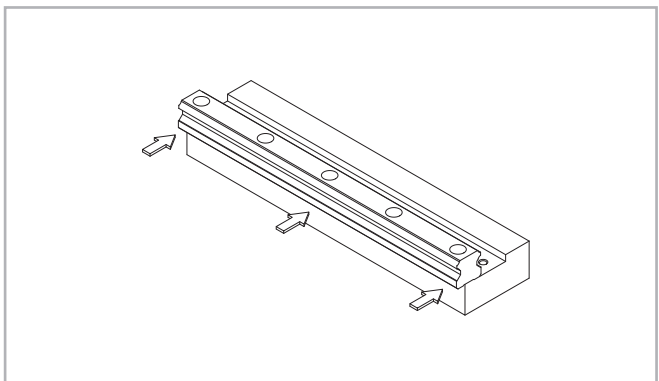
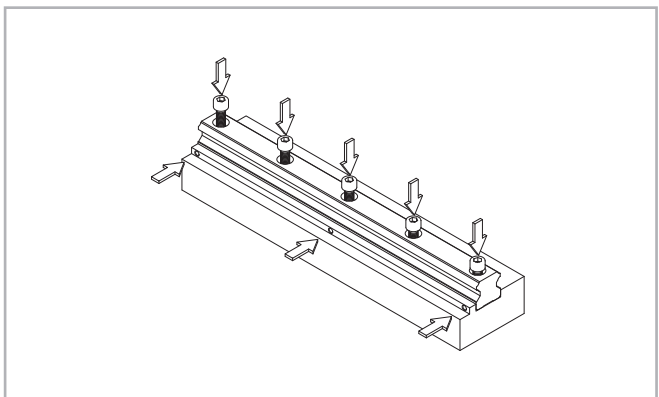

Fig. 58
Fig. 59
(2) Carefully lay the guide rail on the assembly surface (see fig. 58) and slightly tighten the fixing screws so that the guide rail lightly touches the assembly surface (align the guide rail along the shoulder edge of the assembly surface, see fig. 59).